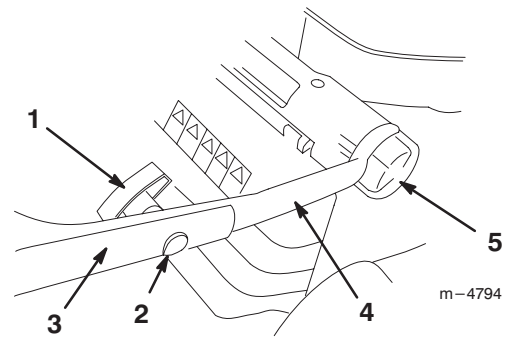

Figure 2
- Loosen the handle height adjustment knobs and rotate the lower handle toward the rear of the lawn mower until it seats into one of the handle height settings as shown in Figure 2 on page 8. To set the handle height, refer to *Adjusting the Handle Height* on page 8.
- Install the upper handle section onto the lower handle section with the oval head bolts and the handle knobs as shown in Figure 2. **Tighten the handle knobs securely.**
You can set the handle to three height settings: high, medium, and low (Fig. 2). Select the handle height setting most comfortable for you.